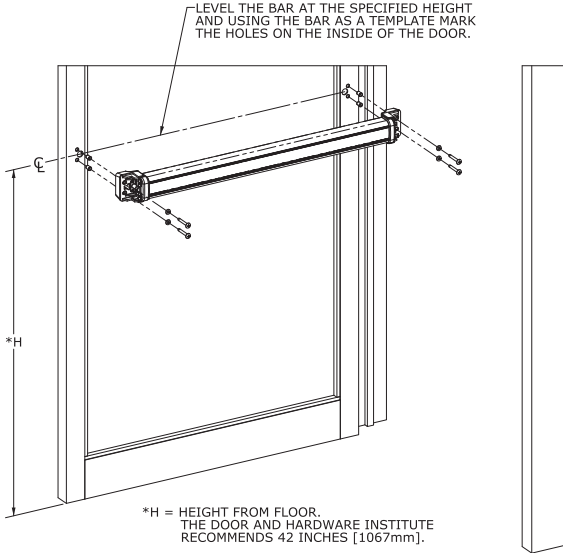

Figure 3
- The bar is positioned at the correct height from the floor (see **Figure 3**). Generally, US Building Codes require that the bar be located between 30 inches [762mm] and 44 inches [1118mm] from the bottom of the door.